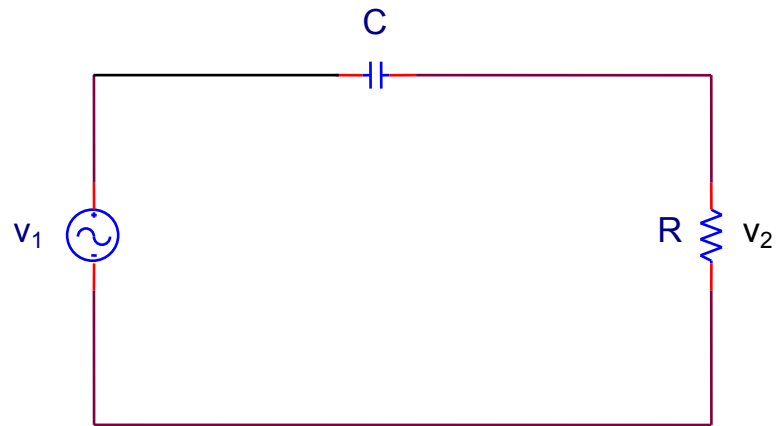

Figure 10.3
2. Repeat part 1 for the circuit of Figure 10.3.